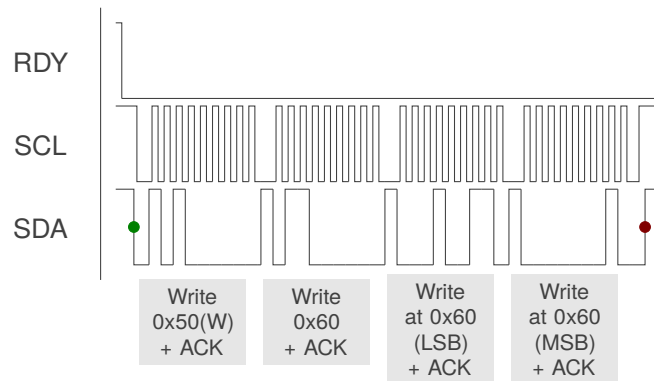

Figure 12.2: I2C Write Example — Write Two Bytes to System Settings 1 Register 0x60
The write operation is displayed in Figure 12.2. Similar to the read transaction, when the RDY interrupt is triggered, the master initiates communication by sending a start condition followed by the device address and a write command. The IQS7221G responds with an acknowledgement, after which the master device transmits one byte defining the register address. The slave acknowledges the register address byte. The master may then write a series of bytes to the register address and the addresses that follow, with each byte being acknowledged by the slave. The write operation is ended when the master produces a stop condition.
- > Write the new values back over I2C, as shown in Figure 12.2.